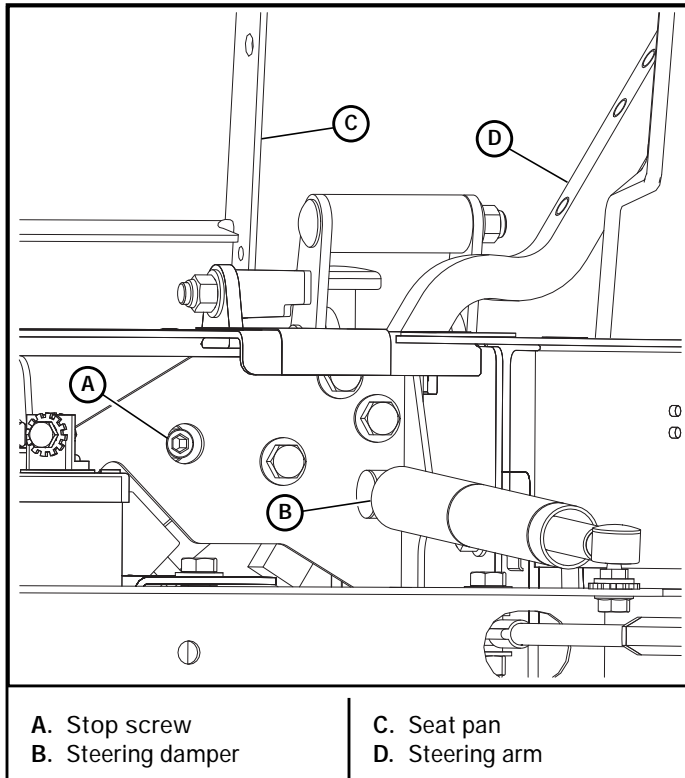
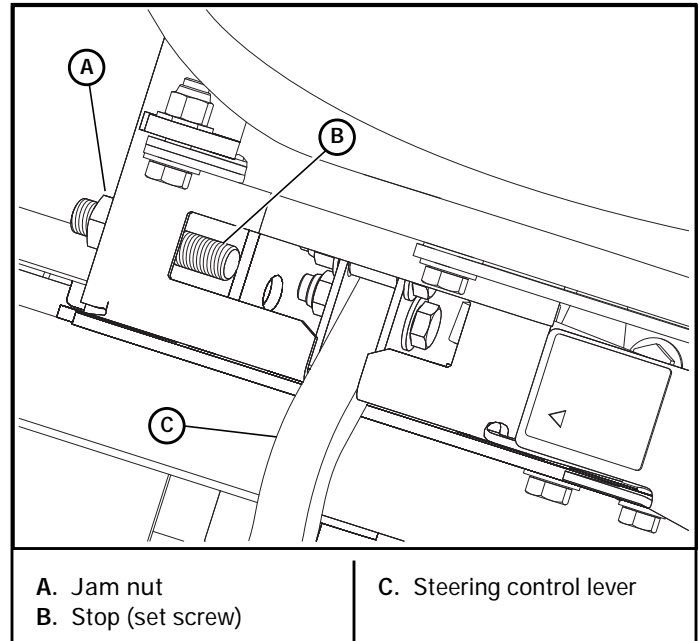

Figure 6-4
Figure 6-5
The steering control lever stops (see Figure 6-4 & Figure 6-5) are designed to do two things: first, and most important, they must keep the pumps from bottoming out internally. Secondly, the stops may be adjusted to help drive straight when the steering control levers are pushed forward against the stops.
3. If the pump arm is stopping the forward motion of the control arm, adjust the stop (set screw) inward to stop the steering control levers slightly before the pump bottoms out. After applying a threadlock (e.g., Loctite 290), turn the stop screw inward until contact is made with the inside of the steering cover, then turn the stop screw an additional 1/4–1/2 turn. Figure 6-4
1. Determine which drive tire is rotating too fast when both steering control levers are against the stops in the control panel. Figure 6-5
2. Stop the engine. Loosen the lock nut on the side which is rotating too fast and turn the stop (set screw) inward to stop the steering control lever sooner. Figure 6-5